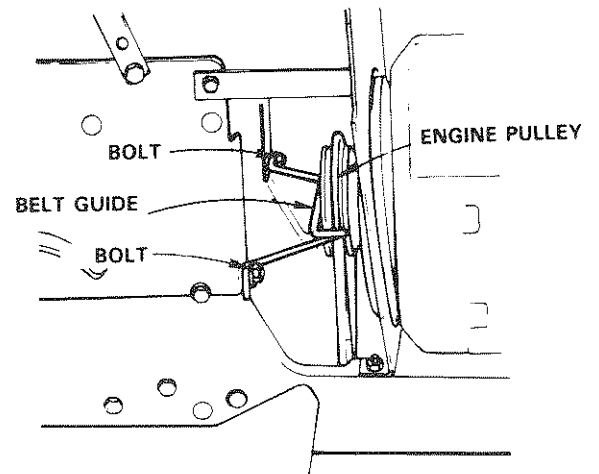

FIGURE 35
- f. Loosen L.H. engine pulley belt guide bolt and swivel belt guide bolt and swivel belt guide onto R.H. bolt. Tighten L.H. and R.H. bolts securely (Fig. 35).